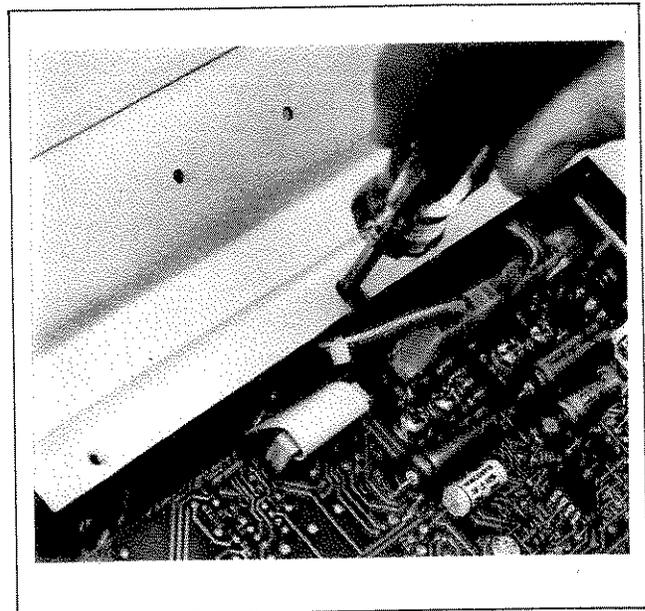

Figure 5-18. Y-Axis Wiper Removal
- e. Remove wiper assembly held by one screw. (See Figure 5-18).